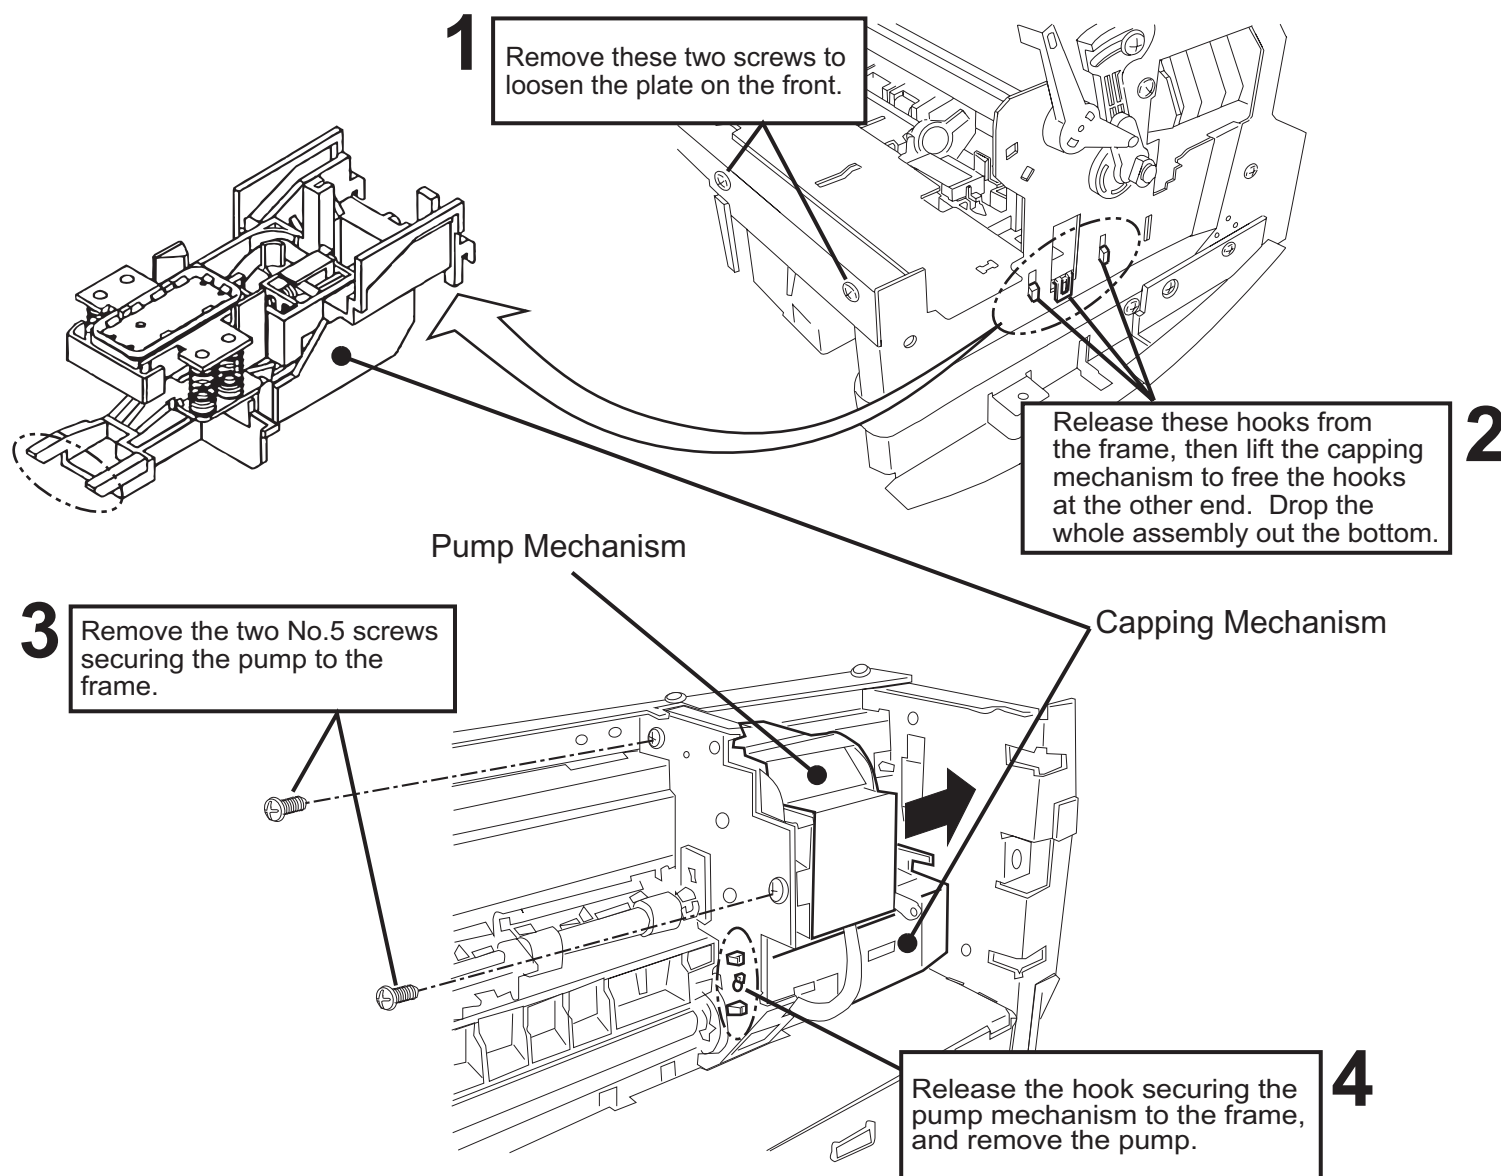

Figure 4-9. Removing the Pump and Capping Assemblies
4. Remove the 2 screws located on the right-front edge of the paper eject frame. See Figure 4-9. Then loosen the screw located on the left-front edge of the paper eject frame. This loosens the front frame and facilitates access to the parts underneath.
5. To remove the capping mechanism, release the hooks that secure the it to the right side of the frame. See Figure 4-9. Lift up the capping mechanism by its right end to free the hooks on its left end. Then remove it by lowering it out the bottom of the printer. Note that the capping mechanism is still connected to the pump assembly by the ink drain tube.
6. Tilt the printer back so that you can see the bottom of the printer mechanism. See Figure 4-9.
7. To remove the pump assembly, take out the 2 screws (No.5) securing the pump assembly to the frame. See Figure 4-9.
8. Release the hook securing the pump assembly to the frame and remove the pump assembly. See Figure 4-9.